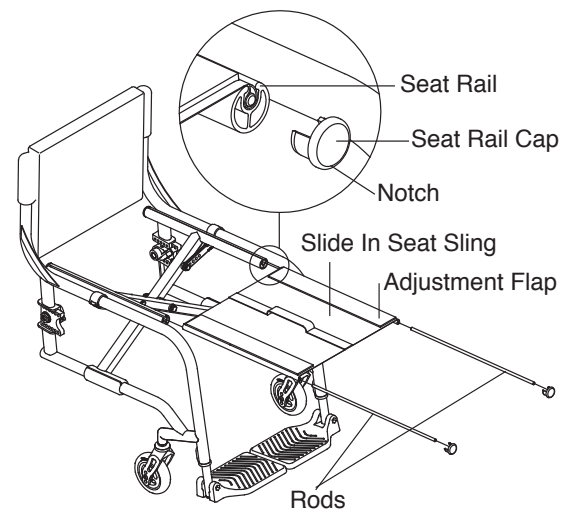

Figure 43
- Insert the flat head screwdriver in the notch on the underside of each seat rail cap and pry off both caps. See Figure 43.
- Remove slide in seat sling and rods. See Figure 43.
- Insert the flathead screwdriver into the notch on the underside of each seat rail cap and pry off both caps. See Figure 43.
- Remove slide-in seat sling and seat sling rods. See Figure 43.